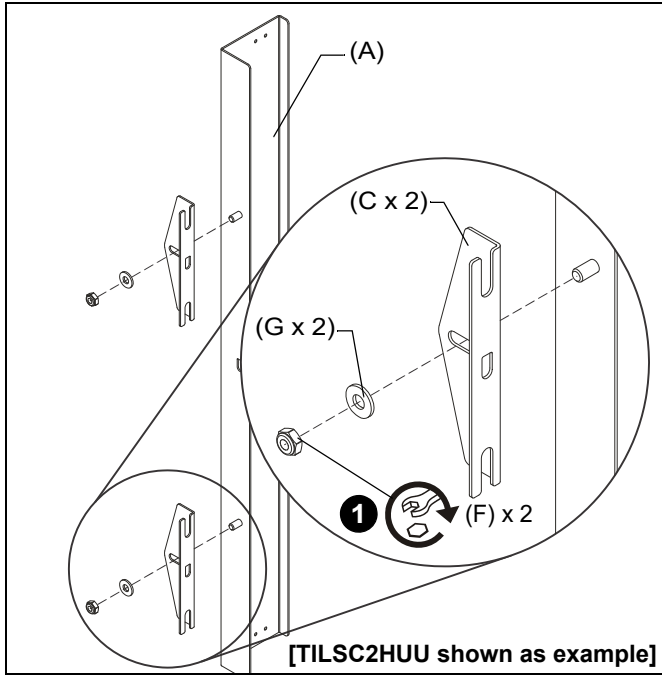

Figure 1
1. Attach two mounting brackets (C) to each side cover (A) using two 1/4-20" hex nuts (F) and two 1/4" washers (G). (See Figure 1)